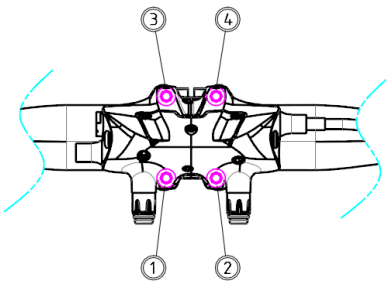

Fig. E-1 Torquing sequence
- Tighten Stem bolts following the sequence shown **(Fig. E-1)**, fastening torque is 6 Nm **(Fig. E-2)**